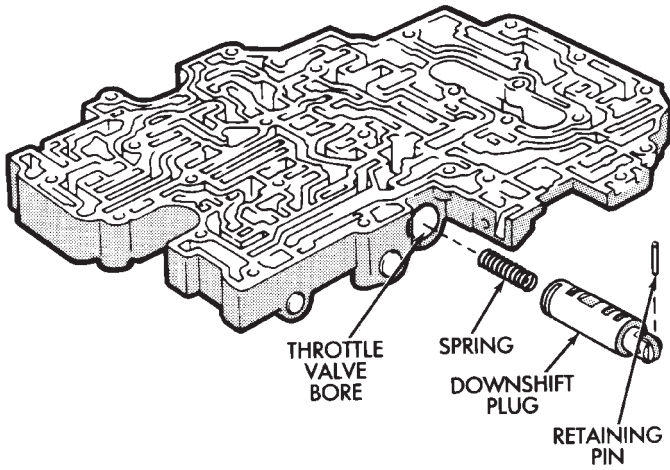

Fig. 19 Installing Downshift Plug J8921-662
(14) Install downshift spring and plug in throttle valve bore. Press plug inward against throttle valve and spring and install retainer pin (Fig. 19).